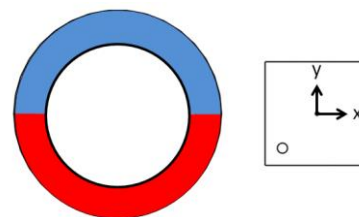

Figure 27: Package Top View with X- and Y-Axes
Next, plot the error curve (the output minus the real mechanical position vs. the real mechanical position) and extract two parameters: the maximum error (E), and the position of the maximum with respect to a zero crossing (a_M) (see Figure 27). The k ratio can be calculated with Equation (5):
The dot marked on the package indicates whether the radial field is aligned with the sensor coordinate X or Y (see Figure 27).